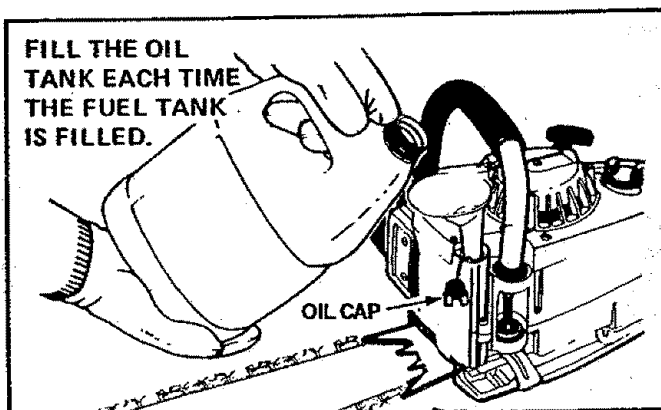

Figure 17
- Turn saw on its side with oil cap up. Figure 17.